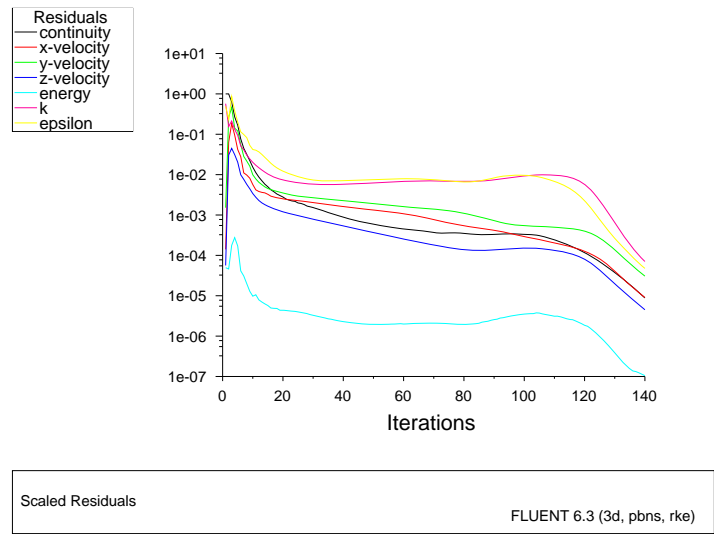
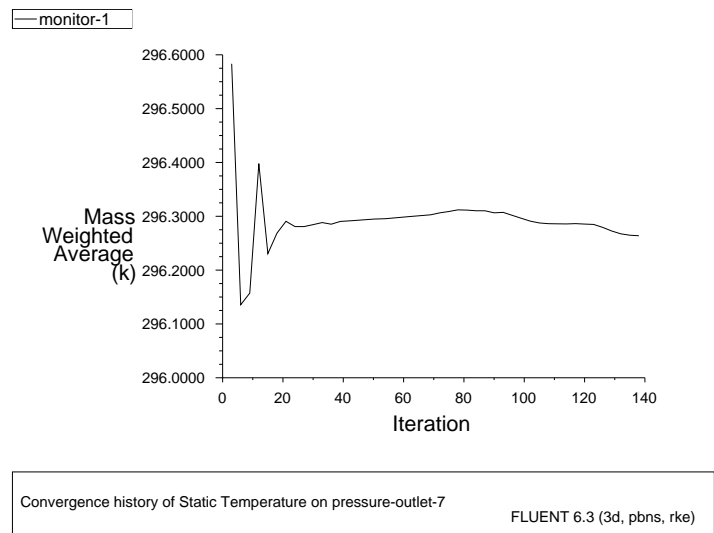

Figure 1.3: Residuals for the First 140 Iterations
Figure 1.4: Convergence History of the Mass-Weighted Average Temperature
As the calculation progresses, the residuals will be plotted in the graphics window (Figure 1.3). An additional graphics window will open to display the convergence history of the mass-weighted average temperature (Figure 1.4). The solution will reach convergence after approximately 140 iterations.
6. Examine the plots for convergence (Figures 1.3 and 1.4).